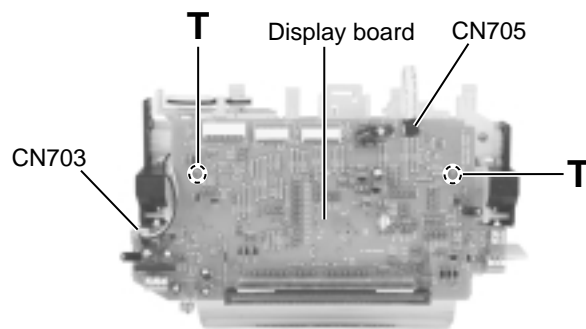

Fig.32
■ Removing the display board (See Fig.32)